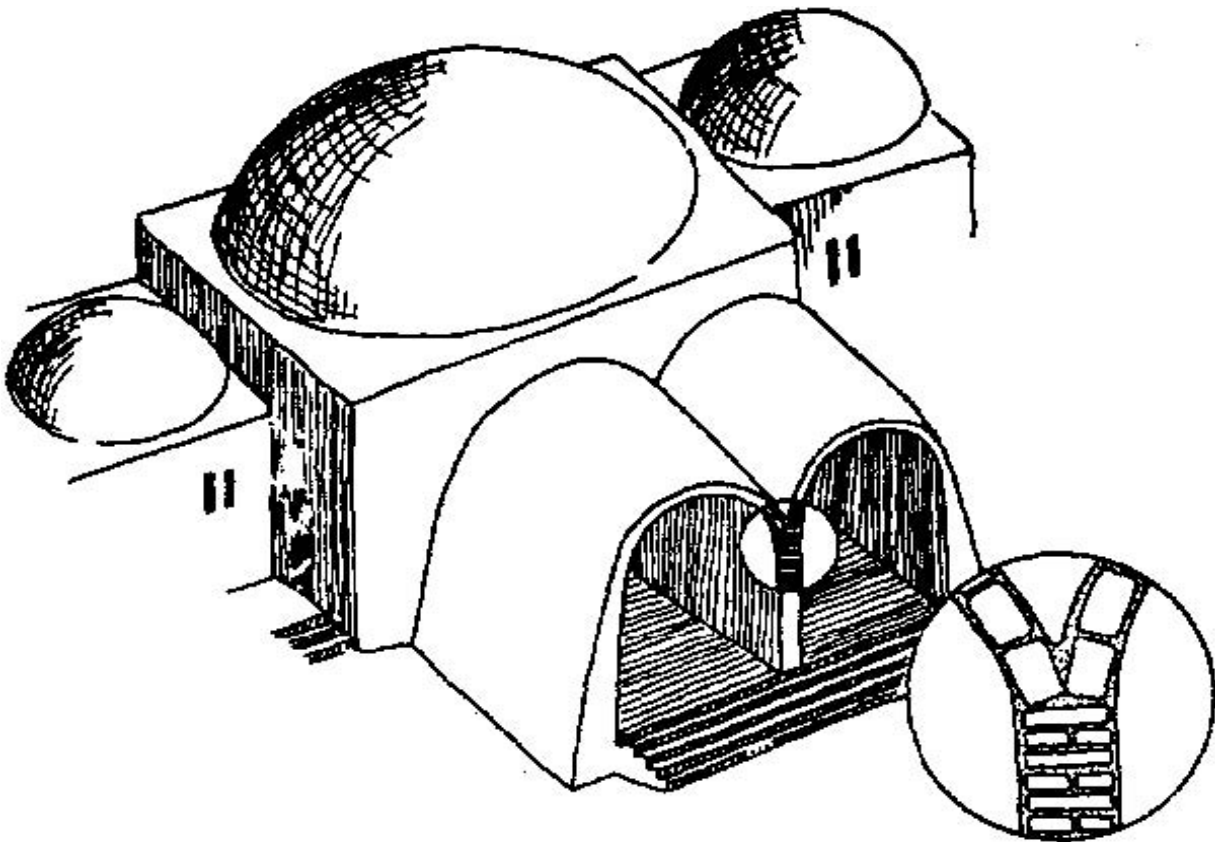

Figure 88. This style of earth dome and vault construction was used in a reconstruction program at New Gurna, Egypt.
*ARCH OF VAULT ROOFS* - (See Figure 88.) These types of roofs are used in areas where timber is scarce. They require some skill to build although in some areas such roofs have been used for centuries and local masons know how to build them.